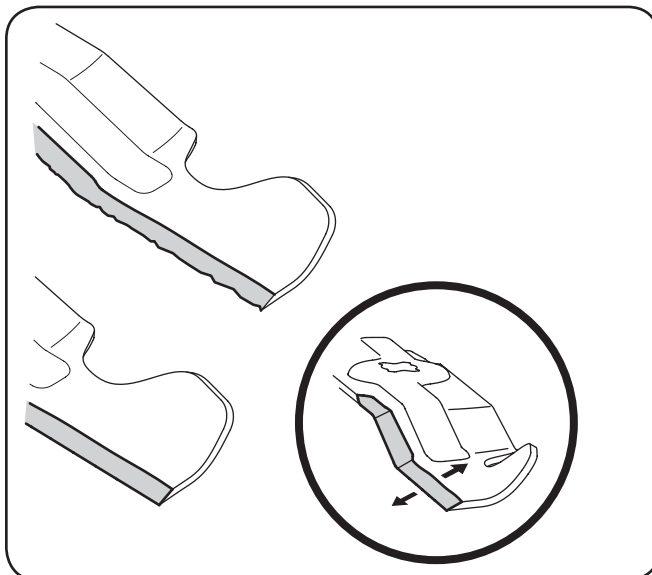

Figure 7-10
- To properly sharpen the cutting blades, remove equal amounts of metal from both ends of the blades along the cutting edges, parallel to the trailing edge, at a 25°- 30° angle. Always grind each cutting blade edge equally to maintain proper blade balance. See Figure 7-10.